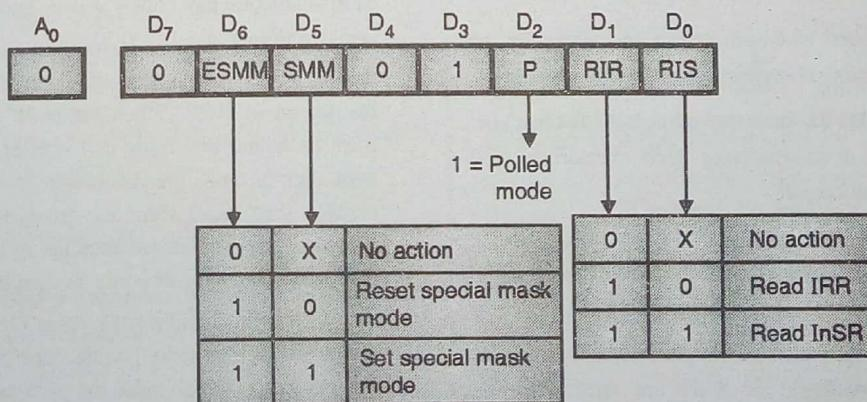

Fig. 8.8 : OCW3 format
3. Read IRR and InSR. A write command issued with $A_0 = 0$ and $D_4D_3 = 01$ is considered as OCW3. The OCW3 format is as shown in Fig. 8.8.